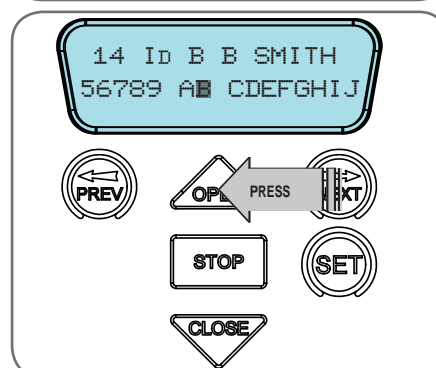

Fig F.7
- Press NEXT or PREV to move the cursor. (**Fig. F.7**)